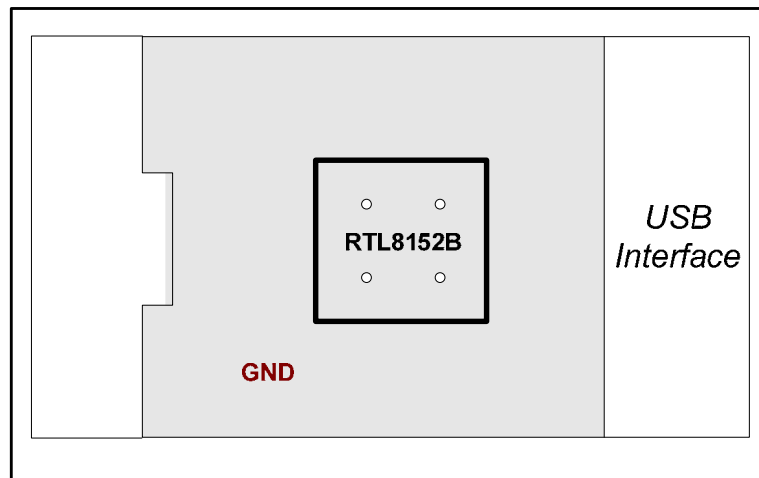

Figure 5. Ground Plane Layout-1 (RTL8152B)
- RTL8152B: The size of the center EPAD ground is 2.7mm x 2.7mm. The PCB layout requires 4 vias to connect the EPAD to the lower layer ground plane (see Figure 5)